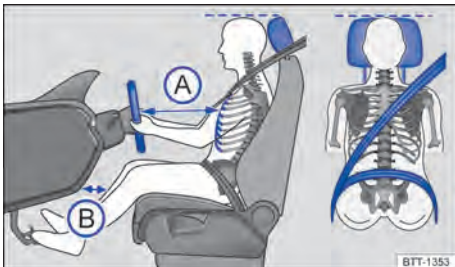

Fig. 21 Correct distance between the driver and the steering wheel, correct seatbelt position and correct headrest adjustment.
- Adjust the seat so that the distance between the steering wheel and the driver's chest is of at least 25 cm → Fig. 21 (A) and so the driver can firmly hold the steering wheel by its outer rim with both hands and with slightly flexed arms.
- Adjust the driver's seat lengthwise so that the pedals may be reached with slightly flexed legs and so that the distance between the knees and the dashboard is at least 10 cm → Fig. 21 (B).
- Adjust the head rest so its top edge is at the same height as the top of the head → Fig. 21 – but not below eye level. Position the back of your head as close to the head restraint as possible.